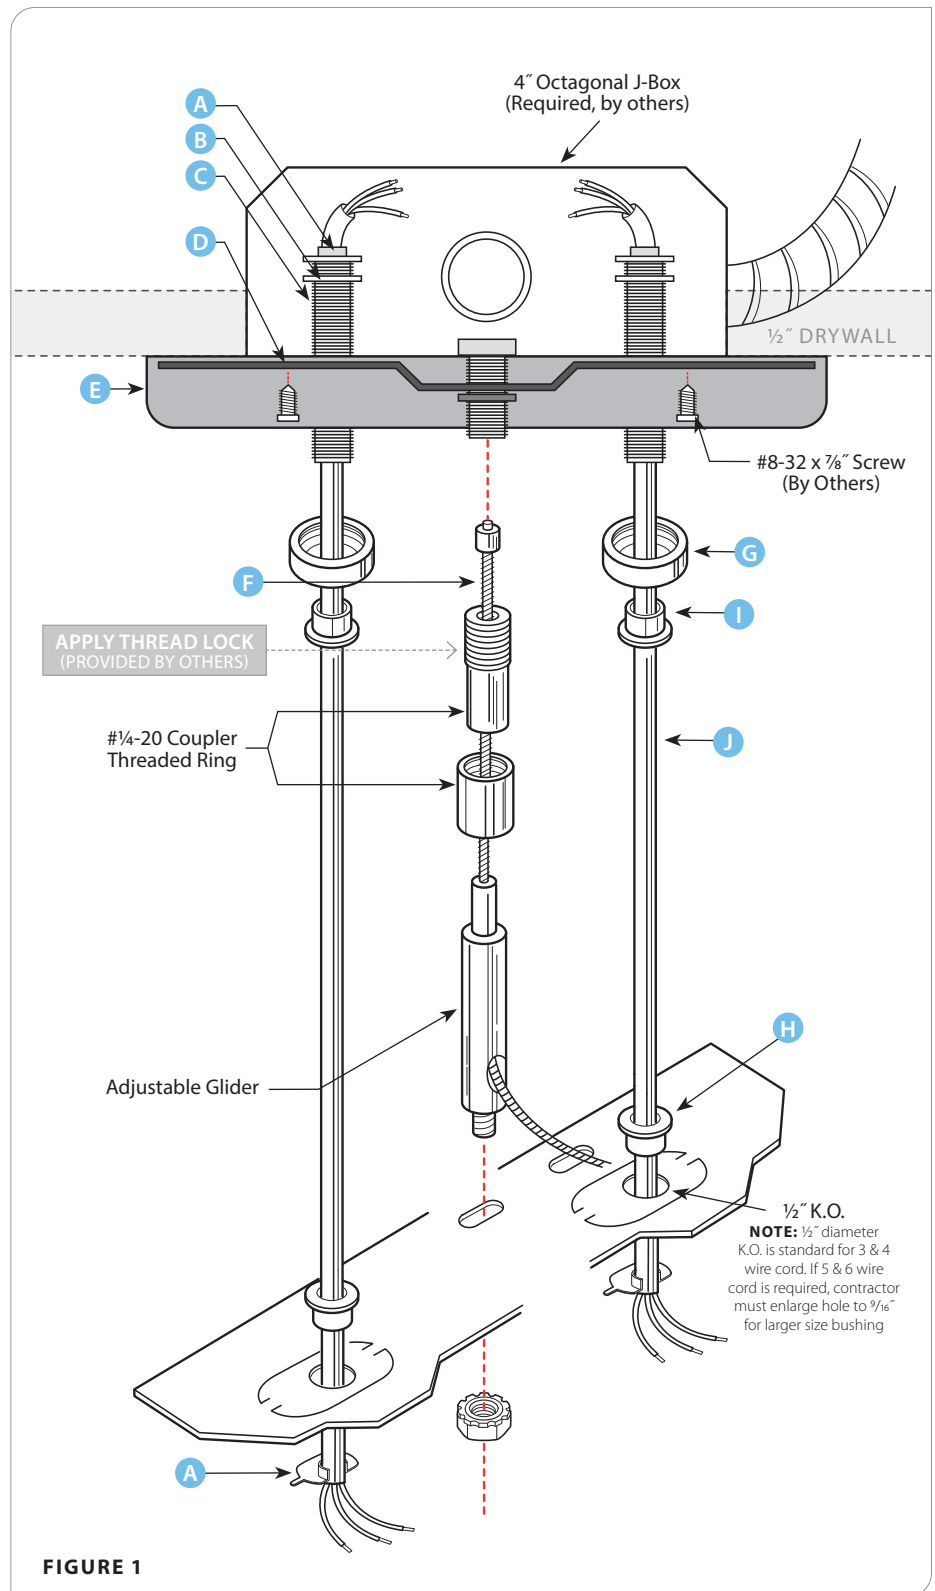

FIGURE 1
3. Fasten the Brass Knurl Nut (B) onto Brass Nipple (C), then insert into the 3-Hole Canopy (E). Snap the Universal Bushing (I) into the Threaded Bushing (G) and secure it at the end of the Brass Nipple (see figure 1) and set it aside.
4. Mount the provided Mounting Strap (D) to J-Box with #8-32 x 7/8" Screws. Make sure to position the Mounting Strap so that the Brass Nipples will later fit into the J-Box.
5. Cut SJT Cord to required length and run one end of the SJT Cord through a Threaded and Universal Bushing (G,I), then through the Brass Nipple (C) and secure the SJT Cord with a Metal Strain Relief (A). Prudential provides 1' addition cord per feed drop. For example, 53' aircraft cable gets 5' cord; 8' aircraft cable gets 9' cord; etc. Once completed, make all necessary connections to the Power in the J-Box.
6. Lift Canopy to Mounting Strap, so 1/4-20 x 3/4" stud of the Mounting Strap passes through the center 3/8" diameter hole of the Canopy. Then secure it with #1/4-20 Coupler Threaded Ring of the Support Cable Kit (F). Apply a small amount of thread lock to coupler threaded area (if needed).
7. Remove 1/2" KO from fixture. Insert the other end of the SJT Cord through the Cord Bushing (H), then press the Cord Bushing and SJT Cord through the 1/2" dia. hole of fixture and secure it with a Metal Strain Relief (A) from the inside of fixture. For a 5 or 6 wire cord, contractor must enlarge holes to 3/16" diameter for larger size bushing.